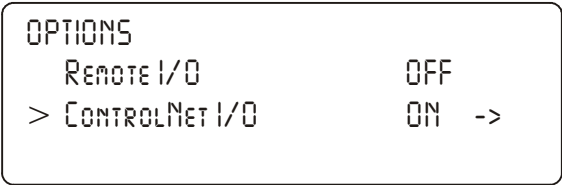

FIG. 133: OPTIONS/SELECTING REMOTE I/O
- Step 3. Press the Enter button. The Options submenu appears with Remote I/O selected. (See Fig. 133)
- Step 4. If the cursor is not in front of ControlNet I/O, push the up arrow until the cursor is aligned with ControlNet I/O. (See Fig. 133)